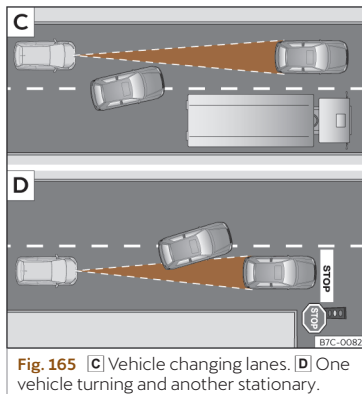

Fig. 165 **C** Vehicle changing lanes. **D** One vehicle turning and another stationary.
- Vehicles that move into your lane, a short distance from your vehicle» **Fig. 165** **C**.
The ACC may not react to stationary vehicles. If, for example, a vehicle detected by the ACC turns or moves over and there is a stationary vehicle in front of it, the ACC will not react to the second vehicle»» **Fig. 165** .